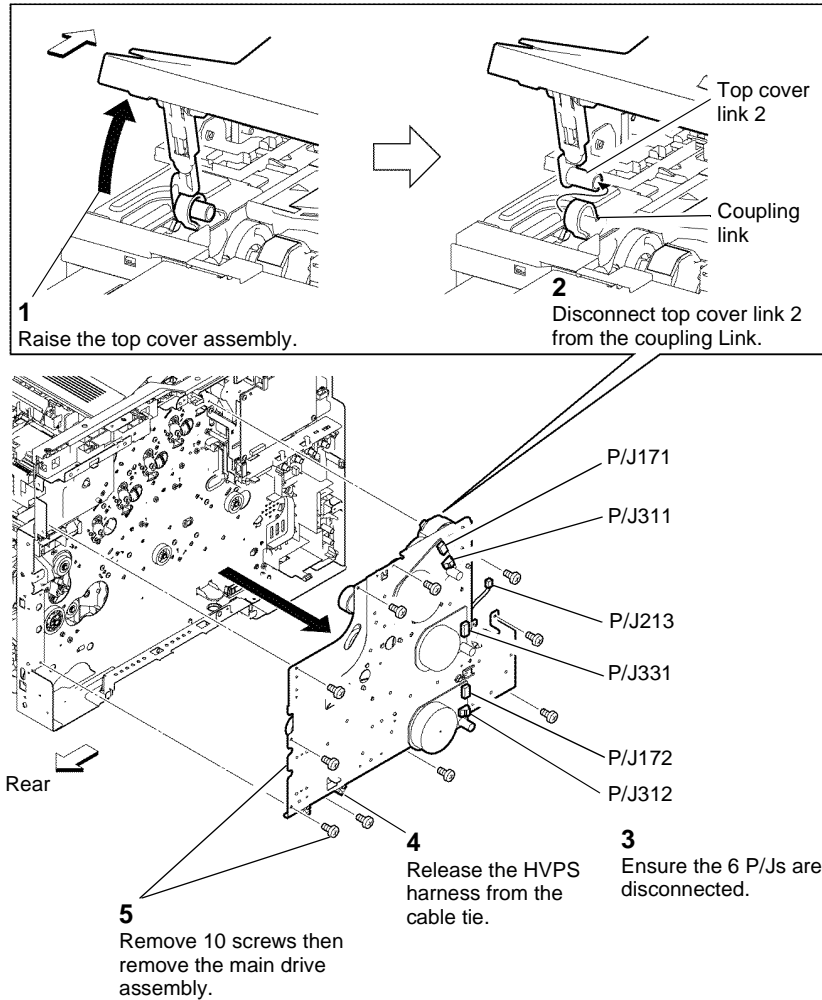

Figure 6 Main drive assembly
7. Refer to Figure 6. Disconnect P/J171, P/J311, P/J172, P/J312, P/J331 and P/J213 from the main drive assembly.
9. Remove the main drive assembly, Figure 6.